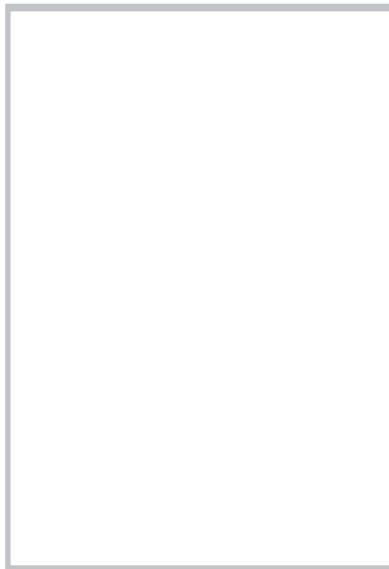

Figure 1
2. Insert the dies into the jaw by pressing the push pins. When released, they will hold the die in place. **(Figure 1)**